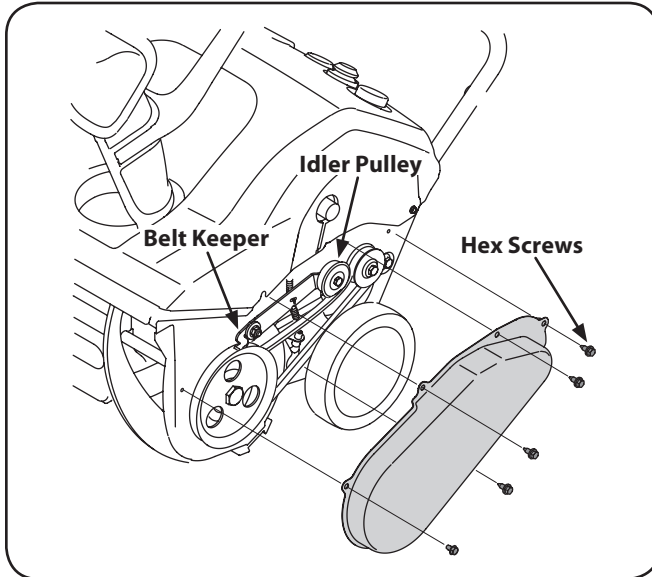

Figure 7-1
1. Remove the belt cover by removing the five hex screws that secure it to the frame. See Fig. 7-1.
NOTE: Push down on the idler pulley to release the belt from under the belt keeper. See Fig. 7-1.